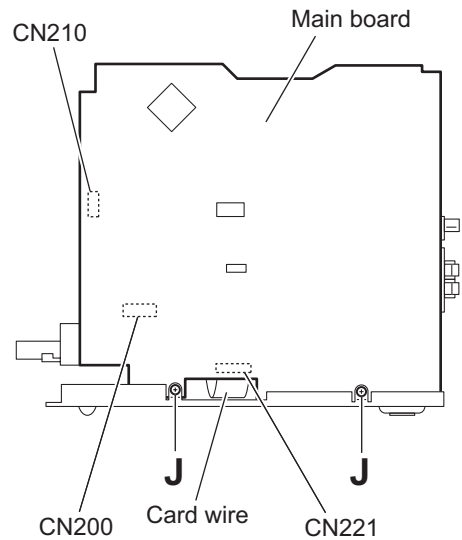

Fig.16
3.1.8 Removing the main board (See Fig.16)